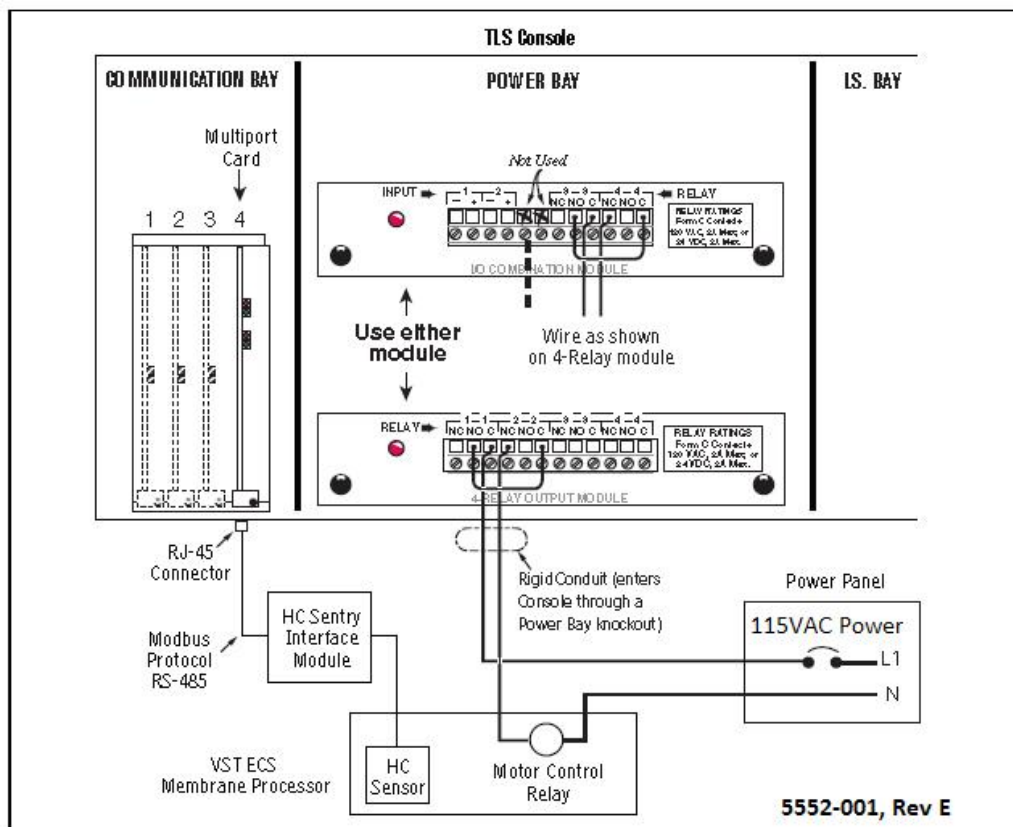

Figure 32: VR TLS Multi-Port Card Connection to the HC Sentry Module
- See Figure 32 TLS / HC Sentry RS-485 Cable for the wiring diagram.